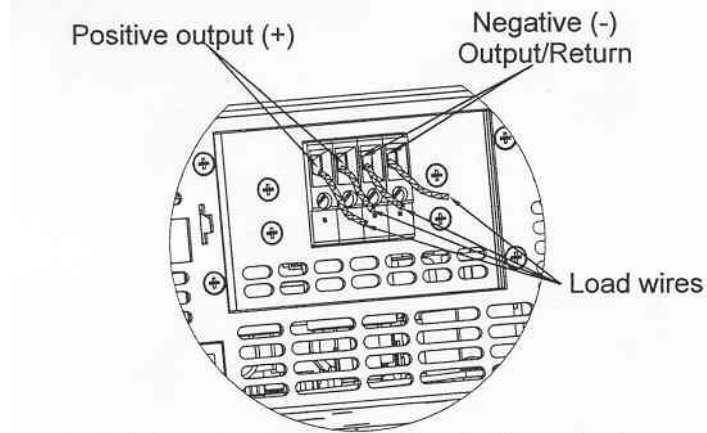

Fig. 3-8: Load wires connection to the output connector
3. Insert the stripped wires into the terminal and tighten the terminal screw securely (see Fig.3-8)